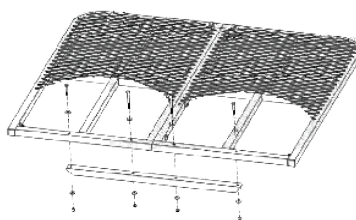

Figure 17
STEP 2: Bolt the platform reinforcement tube to the bottom of the platform using two (2) 2 1/2" bolts, two (2) 2" bolts, eight (8) washers and four (4) locknuts as shown in Figure 17. Make certain to place a washer under the head of each bolt and under each locknut. Tighten locknuts to 50 inch pounds.